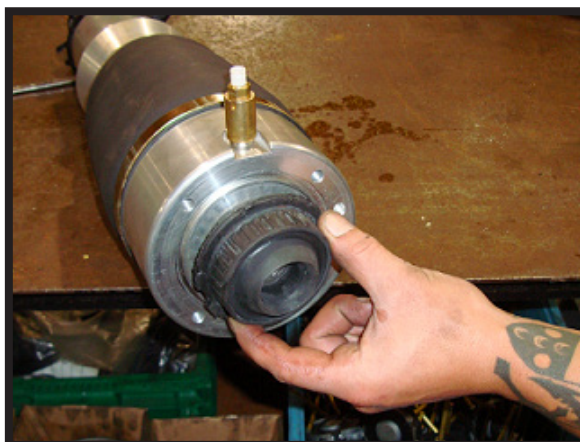

FIGURA 30-3
3. MONTARE IL SUPPORTO SUPERIORE IN GOMMA. (FIGURA 30-3)